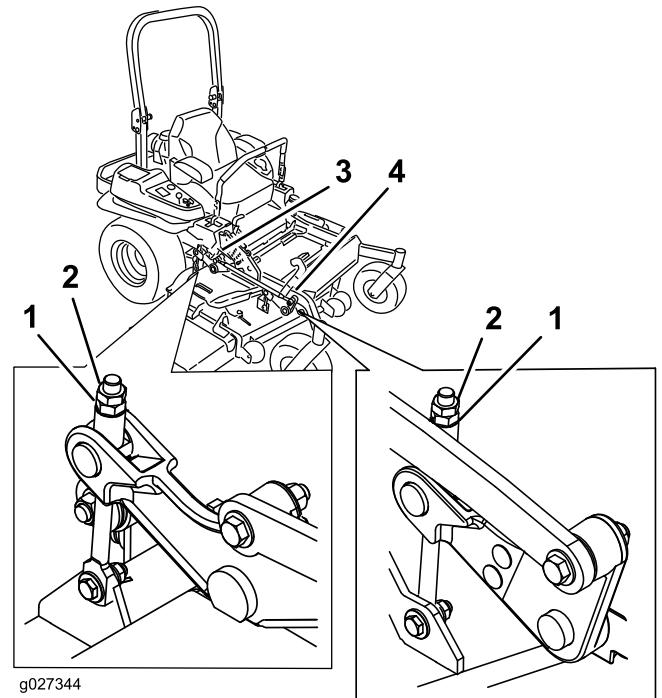

Figure 91
- 10. For mower decks shown in Figure 91, fine-tune the adjustment nut on the front deck lift assembly by turning it.